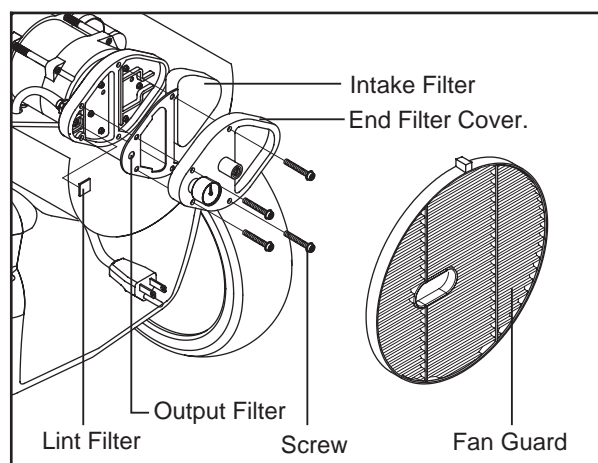

Figure 15. Air Output, Intake, and Lint Filters
-Remove Fan guard.(See Figure 15)